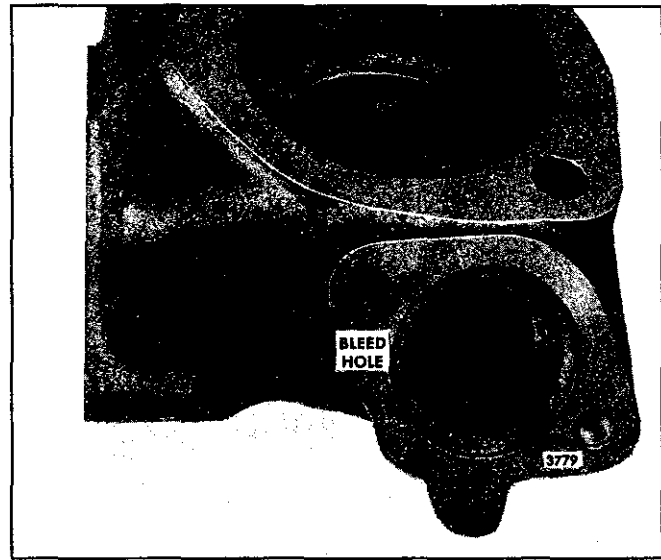

Fig. 5 - Bleed Hole in Thermostat Housing (V-Type Engine)
4. Check the bleed hole in the thermostat housing to make sure it is open (Fig. 5).